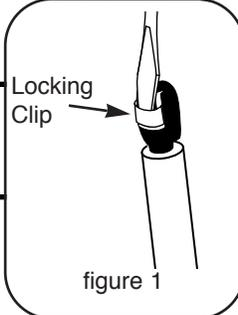

figure 1
1. Use a screwdriver to pry back the locking clips on the new gas springs. (See figure 1)
2. Pull the gas springs from the pivot studs. To do so, use a screwdriver to pry the locking clips back as you pull the ball joints. (See figure 1) You may need to tap the joints gently to dislodge them from the pivot studs.